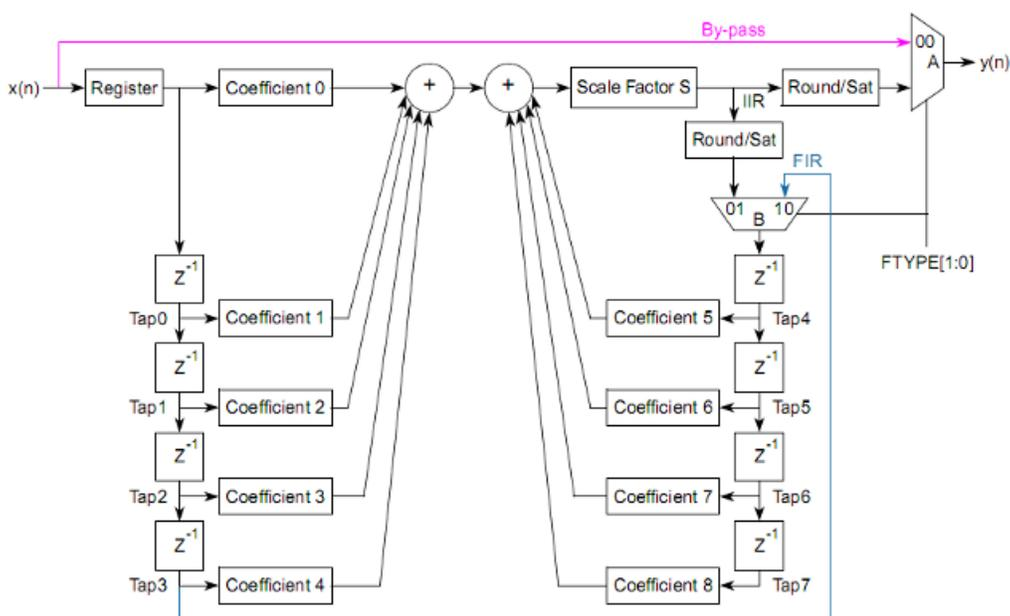

Figure 13. Decimation filter configuration
- A configurable decimation filter has been implemented on the MPC5644A. This provides a mechanism to directly filter eQADC results before they are transferred to the RFIFO. The decimation filter implements up to a 4th-order IIR filter or 8th-order FIR filter, as shown in Figure 13 below. It also includes 24-bit programmable coefficients and a 51-bit accumulator.